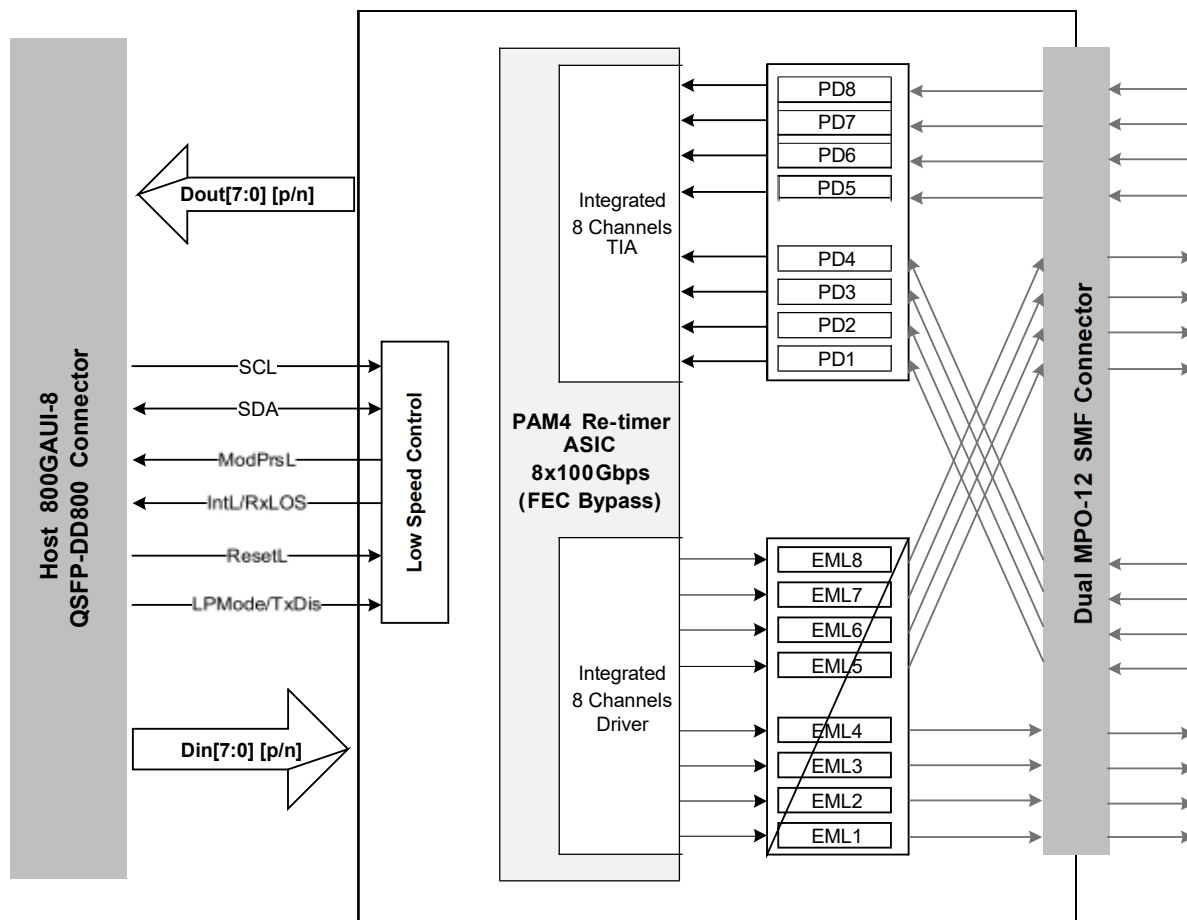

Figure 1: Transceiver Block Diagram
As shown in Figure 1, the transmitter path of the transceiver contains an 8x100Gbps 800GAUI-8 electrical input with Equalization (EQ) block, integrated electrical multiplexer, integrated EML driver, diagnostic monitors and 8 single mode EML lasers. The integrated electrical multiplexer and integrated EML driver converts 8 channels of 100 Gbps (PAM4) electrical input data to 8 channels of 100Gbps (PAM4) parallel optical signals. The transmitter complies with EN 60825 and CDRH Class 1 human eye safety compliance.
As shown in Figure 1, the receiver path of the transceiver contains eight PIN photodiodes, integrated trans-impedance amplifiers (TIA), integrated de-multiplexer and 8x100G 800GAUI-8 compliant electrical output blocks. The PIN, integrated TIA and de-multiplexer converts 8 channels of 100Gbps (PAM4) parallel optical signals to 8 channels of 100Gbps (PAM4) electrical output data.